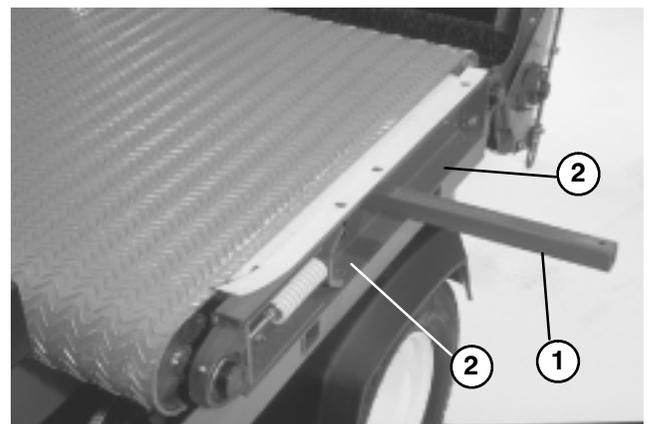

Figure 29
7. Remove (2) capscrews, washers and nut, on left side of machine, securing slider bed to frame (Fig. 29).
- A. Insert a lift bar into hole on left side of machine and raise lift bar to tip slider bed (Fig. 29).